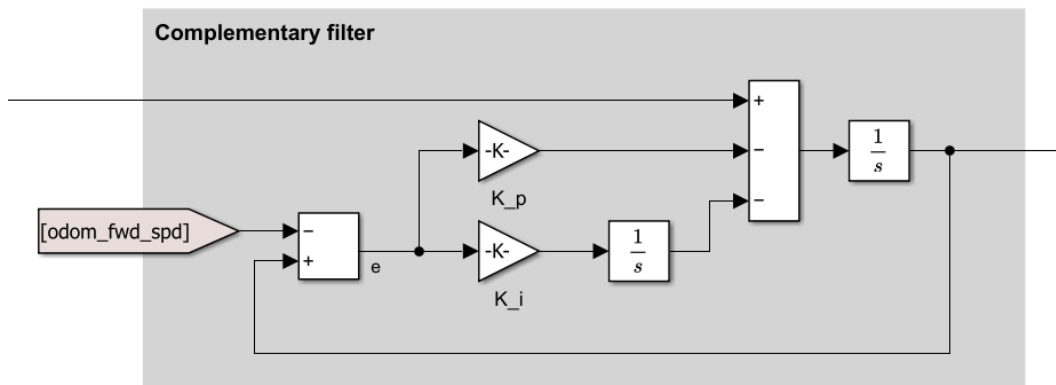

Figure 7: Integral controller implementation
10. Complete the implementation of the complementary filter by adding an integrator to the feedback controller as shown in Figure 7: Connect the output of the calculate error block to the gain K_i . Place an integrator block between the output of the K_i gain and the - input of the sum block.